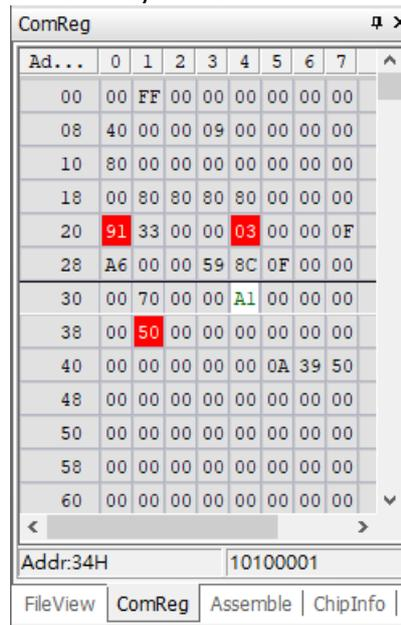

Figure 4.3 Common registers
**ComReg window**– In the Common register window, the hexadecimal value is displayed according to the address, see Figure 4.3. Among them, the gray background color is the register whose value has not changed, and the red background color is the register whose value has changed. It is divided into 5 levels, and the change of the register within 5 steps can be recorded. The earlier the change, the lighter the register color. When the mouse clicks on a register, its background color will be displayed as white. At the same time, the address and binary value of the register will be displayed at the bottom of the window. The